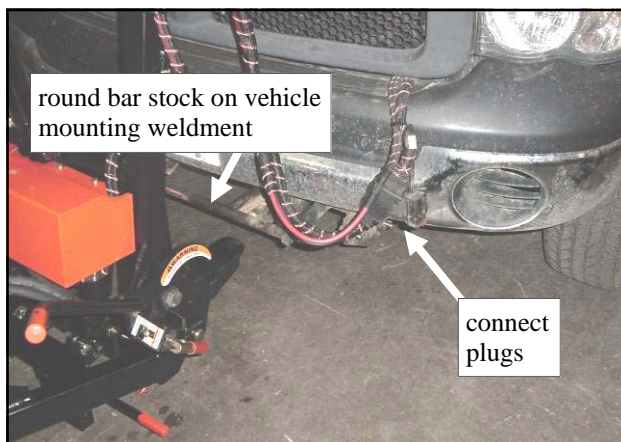
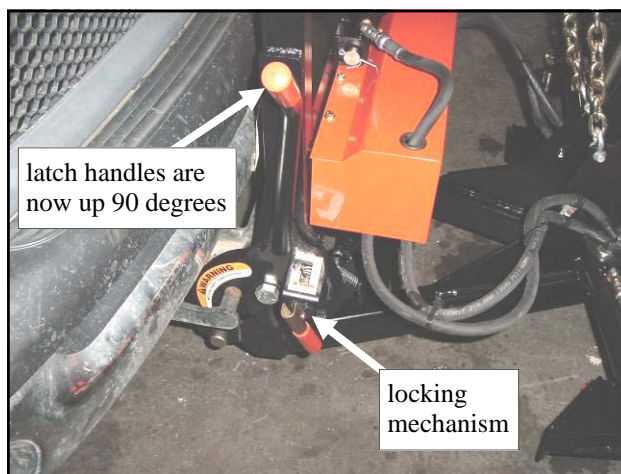
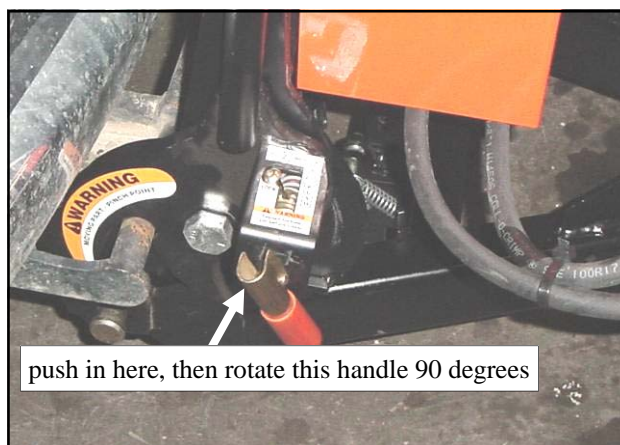

Fig. 11.2 (view of driver's side)
Fig. 11.2.1 (view of passenger's side)
Fig. 11.2.2 (view of passenger's side)
11.2 Per fig. 11.2, line up the front of the vehicle central with the back of the plow (within approximately 2" left to right). Drive forward enough to engage the latch hook on each side of the vehicle. Once fully engaged, rotate each latch handle up 90 degrees as shown in figure 11.2.1. Engage the locking mechanism by pushing the short handle in towards the center of the pump and then rotating it 90 degrees as the label indicates. See figure 11.2.2 for an enlarged view of the locking mechanism.